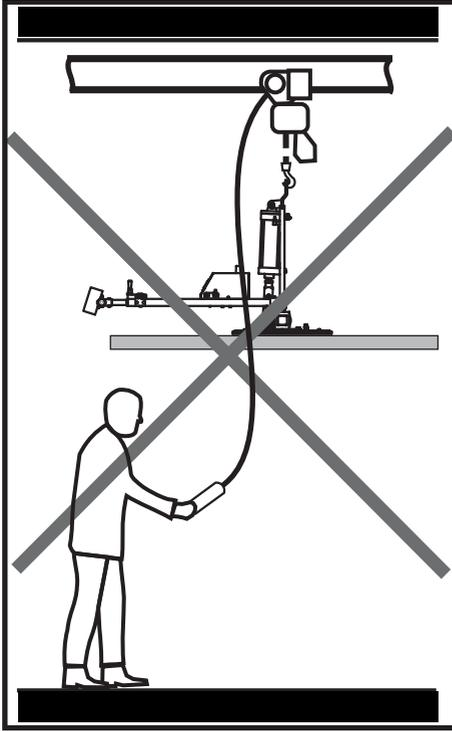

Figure 06
- Standing under suspended loads (see Figure 06 on page 7) .